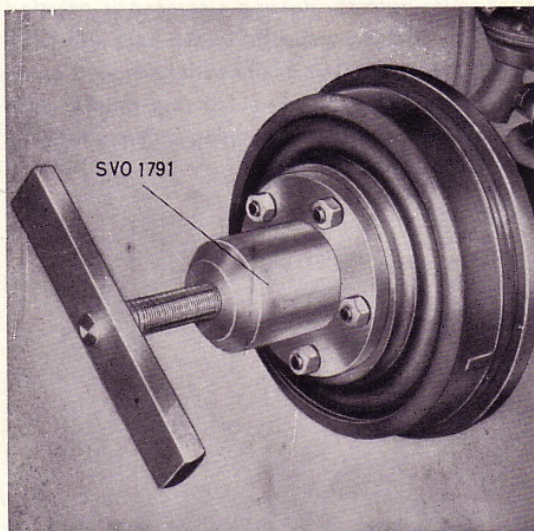

Fig. 1. Removing wheel hub.
1. Remove the wheel and pull off the wheel hub, Fig. 1. Use puller SVO 1791. Remove the brake backing plate after having placed a wooden block under the brake pedal and loosened the brake line on the backing plate.
1. Remove the wheel and pull off the hub as shown in Fig. 1. Use puller SVO 1791. Remove the brake backing plate after having placed a wooden block under the brake pedal and disconnected the brake line from the backing plate.
1. Place the rear axle in a stand or on a couple of supports of a suitable height. Remove the rear wheel hubs with puller SVO 1791, see Fig. 1.